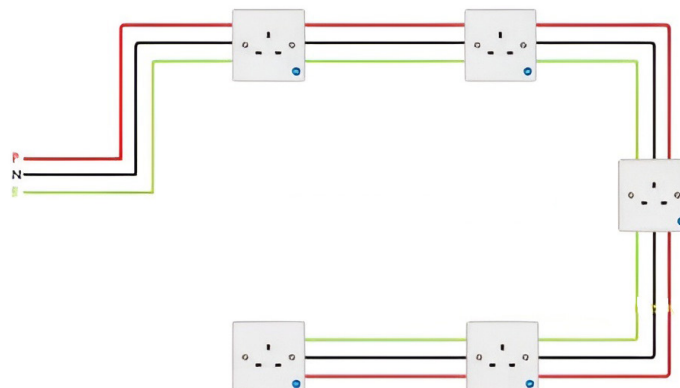

Figure 2.17: Wiring of socket outlets in radial circuit
Learners are to wire the circuit shown in *Figure 2.17* practically
2. **Experiential learning:** Engage learners in an experiential learning by allowing them to draw the radial circuit of Figure 2.17 and use the procedure outlined to practically carry out the wiring process.
1. Build the radial circuit shown in Figure 2.17.